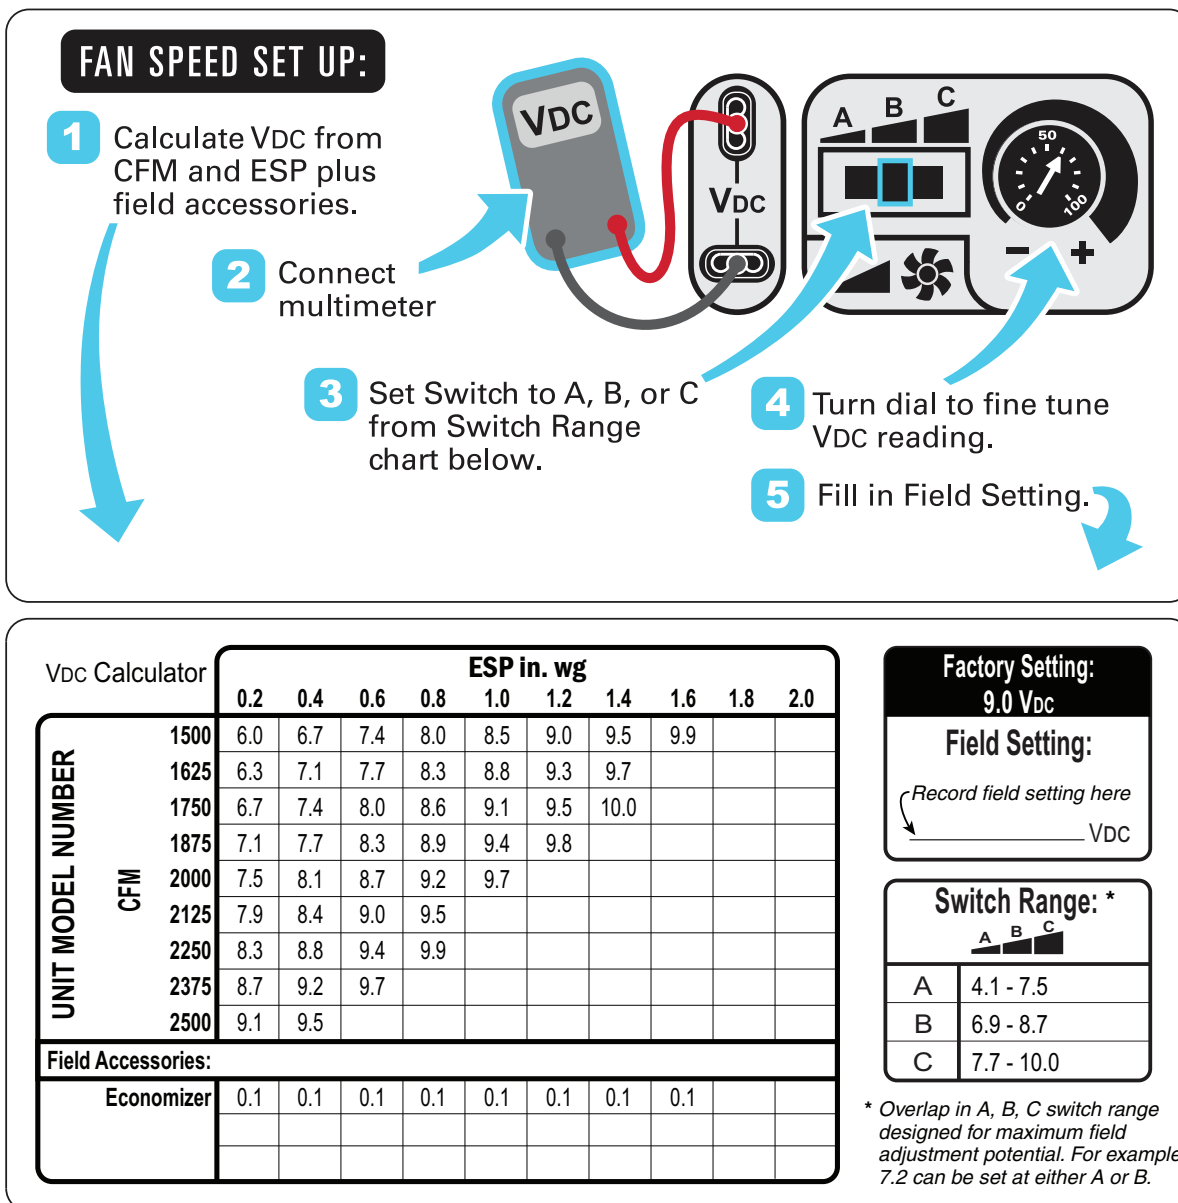

Fig. 61 — Example of Fan Speed Set Up Labels for Electro-Mechanical Controls
2. Using the chart on the Fan Speed Set Up labels (see Fig. 61), calculate the vdc from the CFM and ESP for the base unit. Then add vdc for any accessories installed per the “Field Accessories” section of the label.